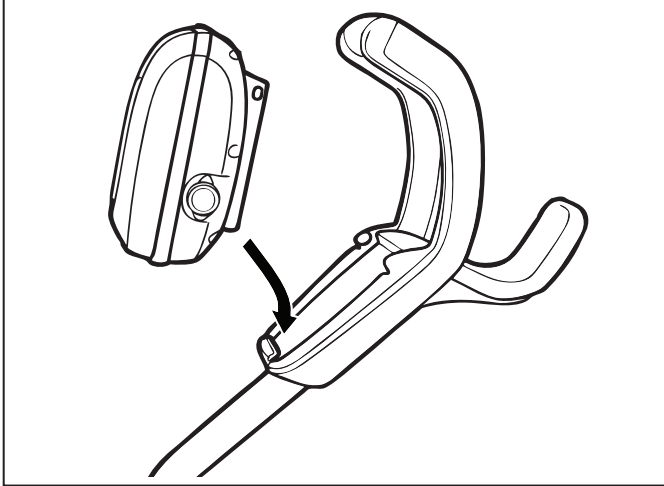

Figure 8. Align Control Unit with Caddy Hook
1. Align the bottom of the control unit with the notch at bottom of the control unit hook on the caddy (Figure 8).